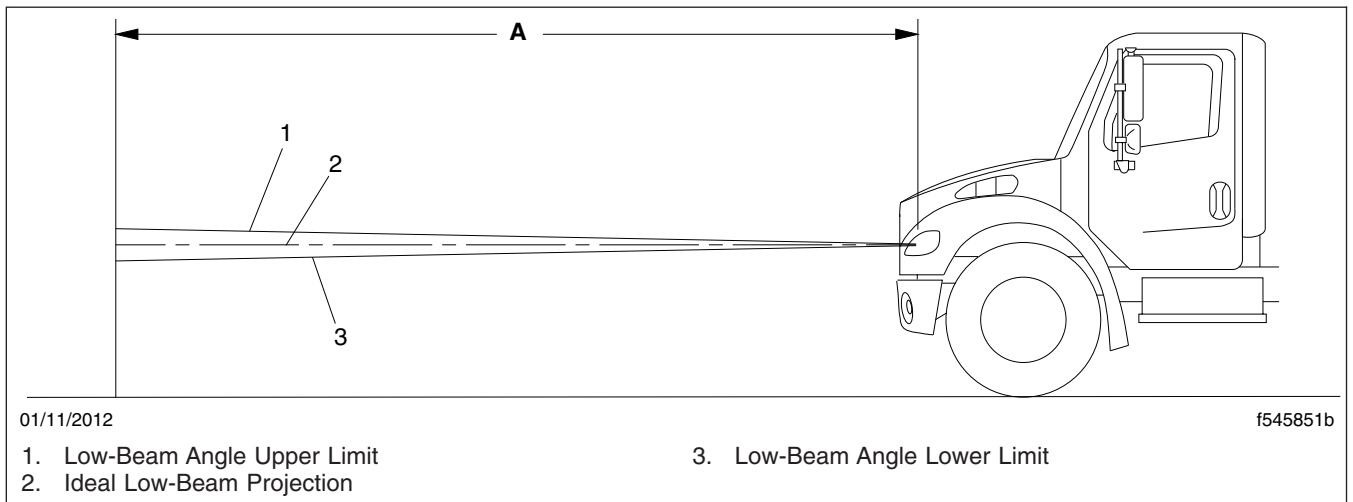

Fig. 18.3, Vertical Low-Beam Headlight Variation Limits
5. Identify the center of each beam projection by marking the area of brightest intensity on the wall. The area of brightest intensity should fall on or very near the marks made during step 3. See Fig. 18.3.